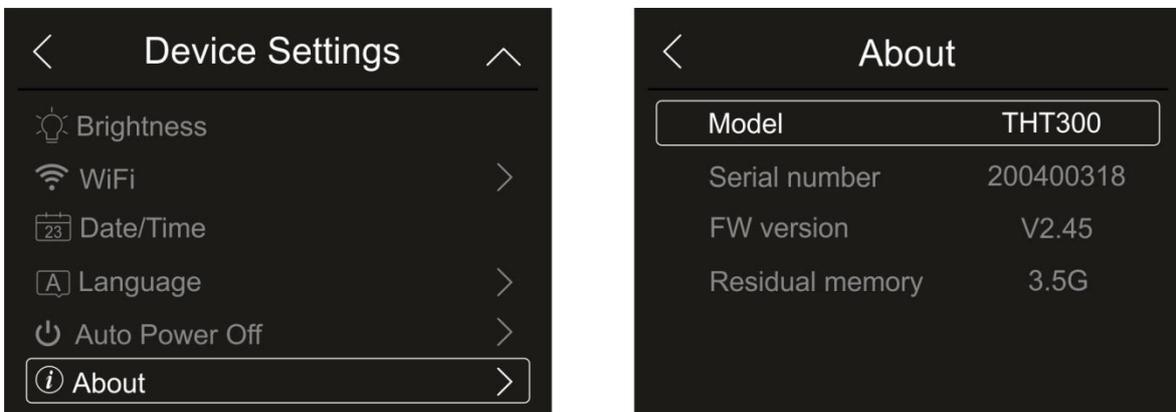

Fig. 19: Information on the instrument
1. Touch the item “About” to display the information about the instrument ad regards: model, serial number, internal Firmware version and available residual memory. The screen in Fig. 19 – right side appears on the display: